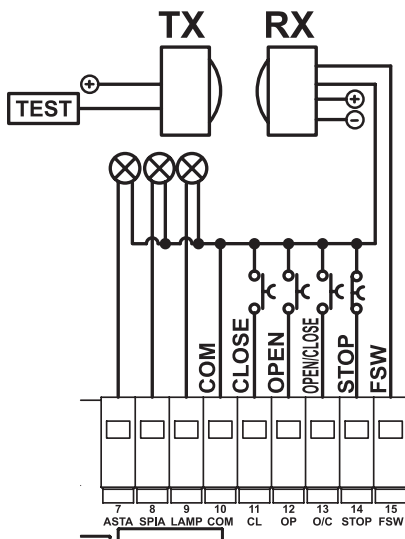

Fig. 3
5.2. TERMINAL BOARD CN2 (Fig. 3)	page.12
5.2. TERMINAL BOARD CN2 (Fig. 3)